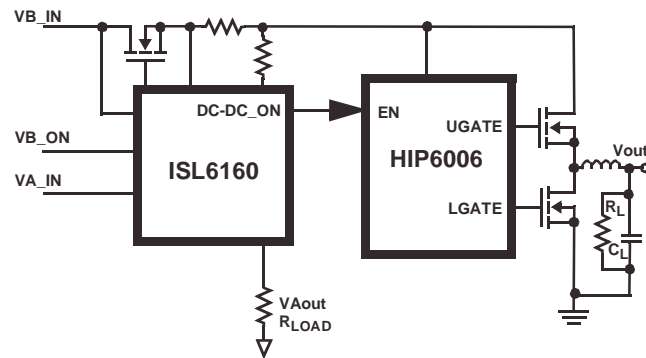
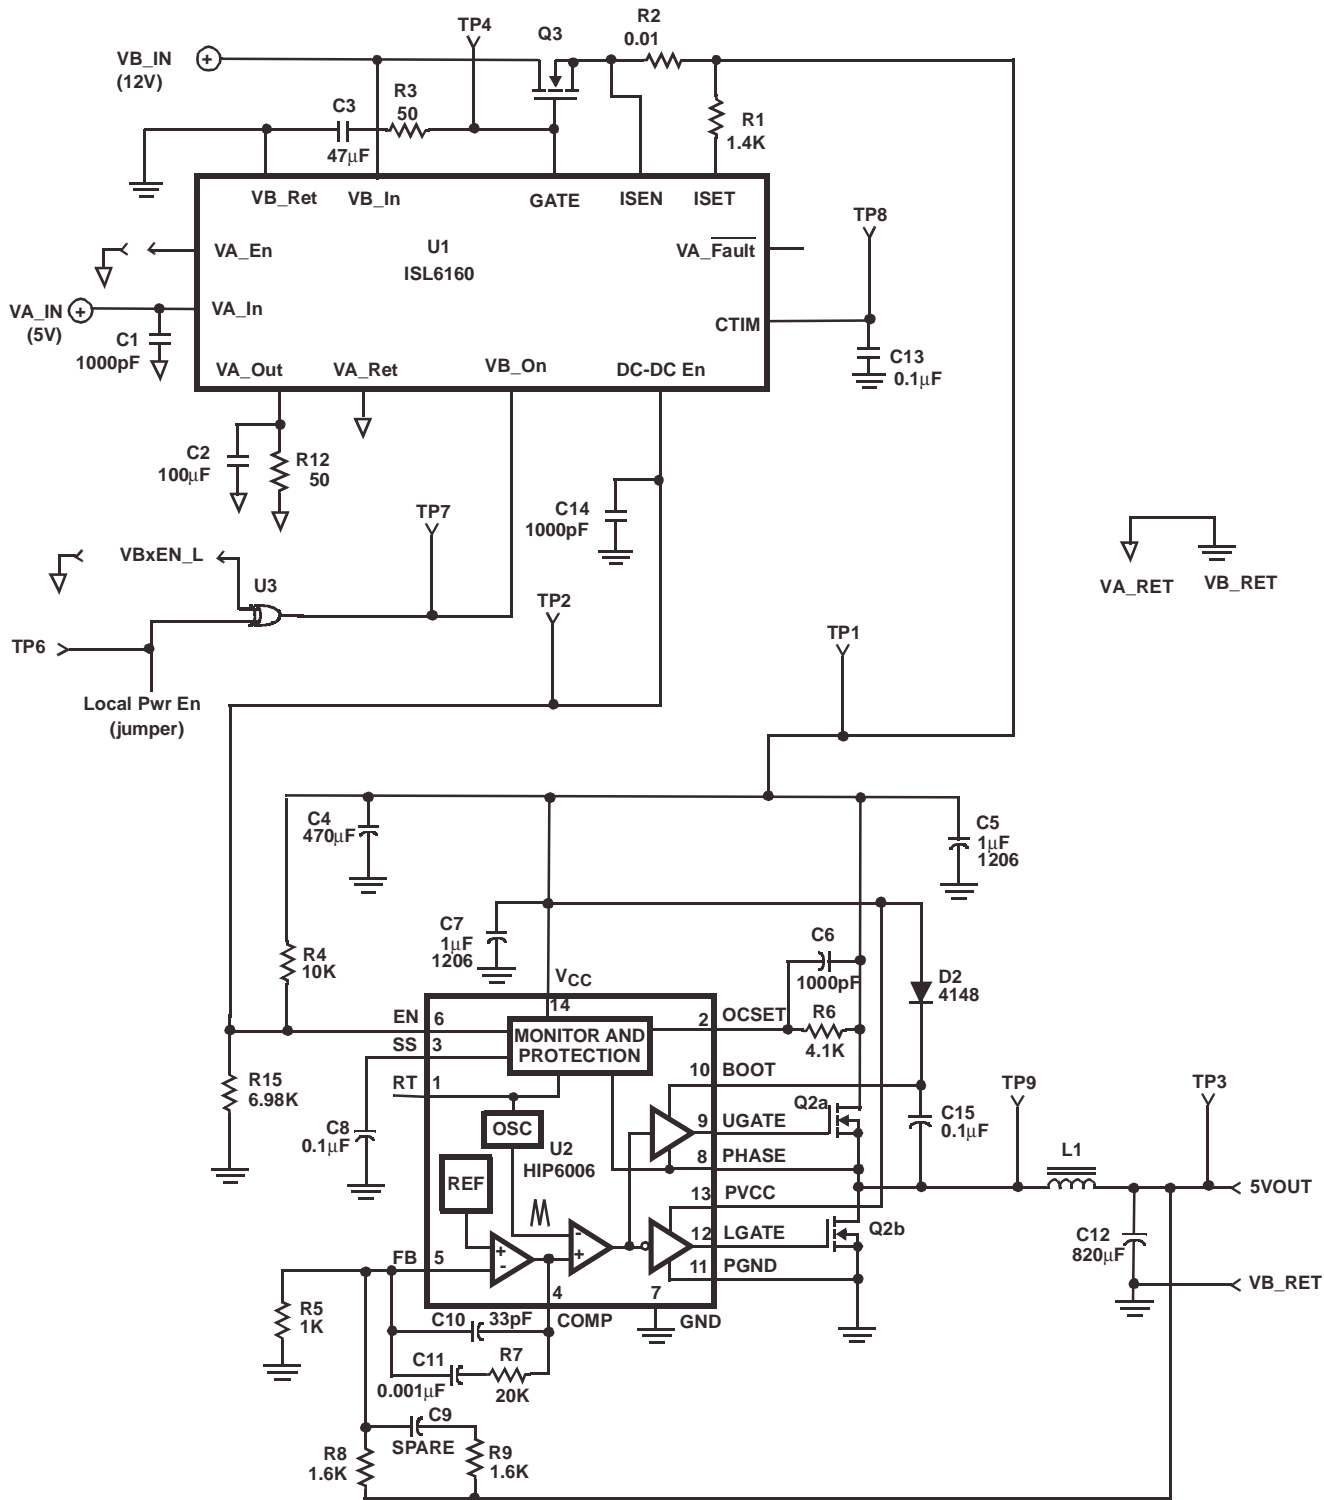

FIGURE 1. ISL6160EVAL2 BLOCK DIAGRAM
FIGURE 11. ISL6160EVAL2 SCHEMATIC
Intersil also provides the ISL6160EVAL2 concept evaluation platform. The ISL6160EVAL2 is a complete InfiniBand Class I (non isolated) power topology evaluation platform which highlights the operation of the ISL6160 and the HIP6006 single output PWM controller. See Figure 1 for a simplified block diagram of the ISL6160EVAL2 platform. This evaluation platform allows the InfiniBand Module (IM) power supply designer to evaluate the concept of this design and apply this concept to a specific IM power requirement. The evaluation platform is configured for 5V Vout and 3.5A max lout capability where it exhibits an efficiency of 85%, all in a small 1.6 sq" area. See Figure 11 for a complete ISL6160EVAL2 schematic.
The HIP6006 has a loss less overcurrent (OC) protection feature. This is accomplished via the current-sense function of the HIP600x family. The HIP6006 senses converter load current by monitoring the drop across the upper MOSFET (Q2a in the Figure 11 schematic) enhancing the converter’s efficiency and reducing cost by eliminating a current sensing resistor.